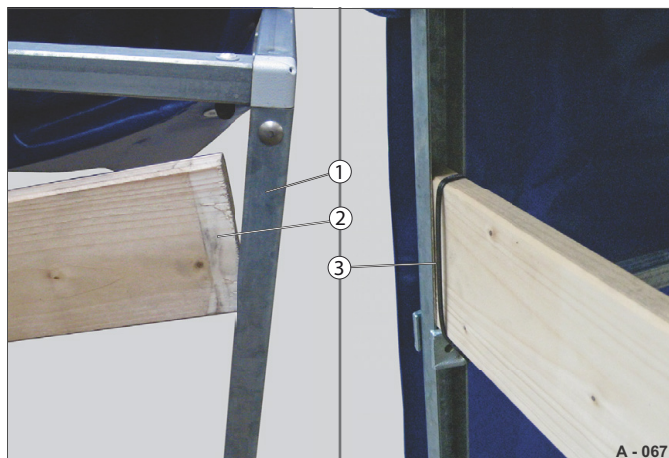

Fig. 78 Tarpaulin cover (e.g. HA)
- Lay the slat (Fig. 78 /2) from above into the U-profile of the posts (Fig. 78 /1).
- Secure them against jumping out using cable ties (Fig. 78 /3).